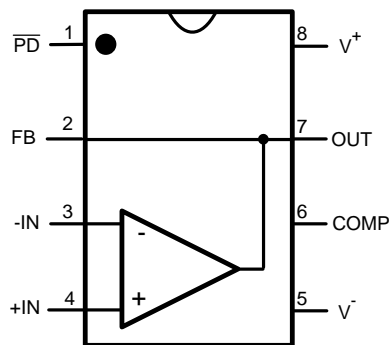

Figure 48. 8-Pin WSON Pinout Diagram
The LMH6629 (WSO8 package only) has some additional features to allow maximum flexibility. As shown in Figure 48, there are provisions for low-power shutdown and two internal compensation settings, which are discussed in more detail in Compensation. Also provided is a feedback (FB) pin which allows the placement of the feedback resistor directly adjacent to the inverting input (IN-) pin. This pin simplifies printed circuit board layout and minimizes the possibility of unwanted interaction between the feedback path and other circuit elements.